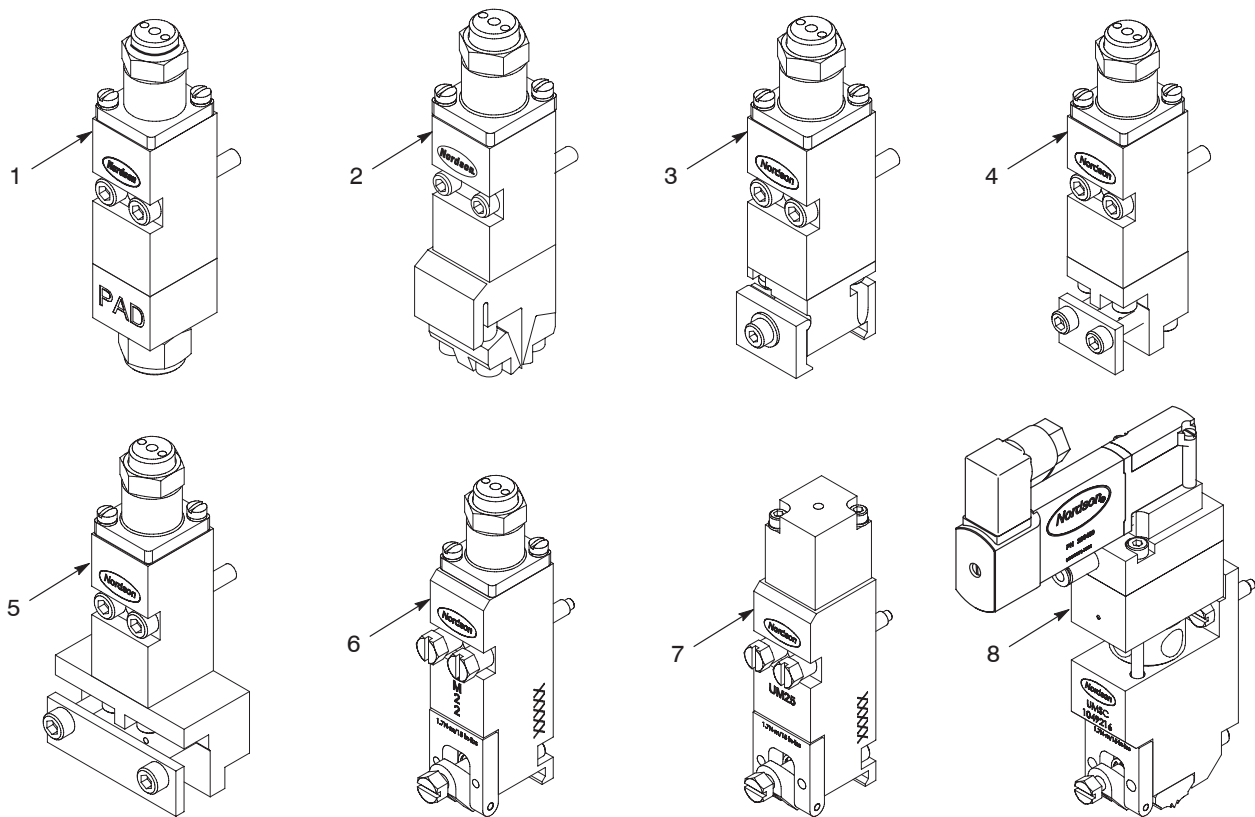

Figure 2-4 Modules
Many types of modules are available, including, but not limited to, Controlled Fiberization (CF), Control Coat (CC), meltblown (MB), Summit (SM), and Universal (UM) modules. Figure 2-4 shows some example modules. An applicator may have one module or many modules. All modules are normally closed, opening to dispense adhesive only when module-actuating air is supplied to them. When the module-actuating air is removed, the modules close, cutting off the adhesive supply.